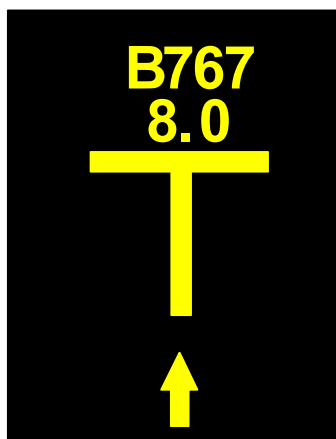
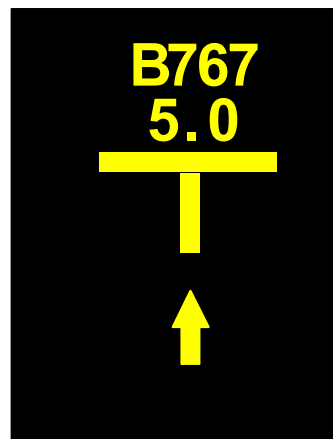
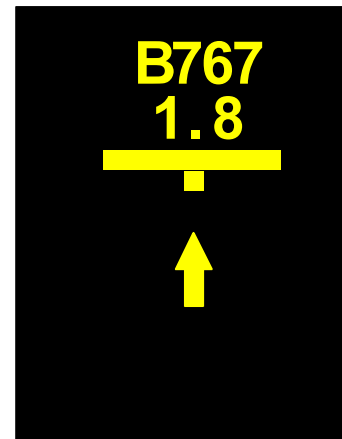

Fig.7
Fig.8
Fig.9
3.4.1 Distance to go information is displayed on the LED screen when the aircraft is within 9 metres of the correct parking position. The distance is displayed above the 'T' symbol at 1 metre intervals between 9 metres - 2 metres (Fig 7 and Fig 8), then at 0.2 metre intervals up to the STOP position (Fig 9).